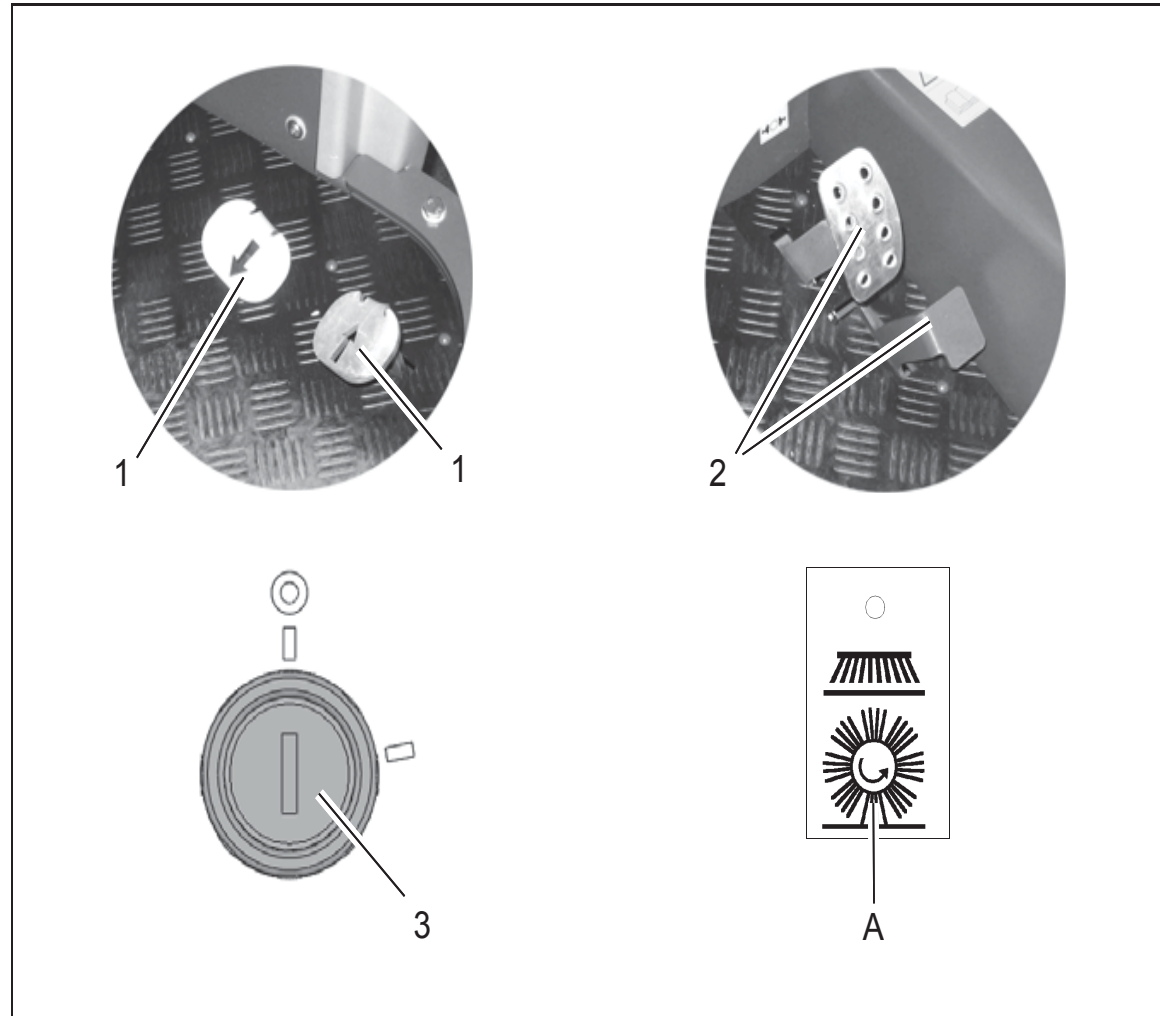

Fig.5
1. Move the accelerator (Fig. 5/1) slowly to its zero setting. The vehicle slows down to a stop.
2. Apply the parking brake (Fig. 5/2) to its end position and lock in place.
3. Switch off the sweeping functions with the button (Fig. 5/A).
4. Switch off the vehicle with the key switch (Fig. 5/3).